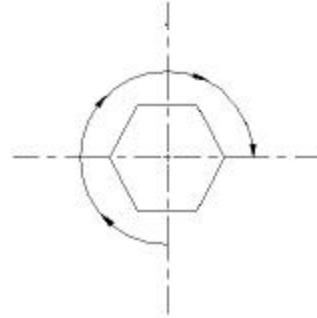

Figure 4.4-4 Tightening Nut 3/4 Turn
- B. For tubing OD < 1/4 inch: Tighten nut 3/4 turn (as shown in Figure 4.4-4 below right) to swage ferrule. (Nut mark should be at 3 o'clock position).
- For tubing OD $< 1/4$ inch: 3 o'clock position (refer to Figure 4.4-4)